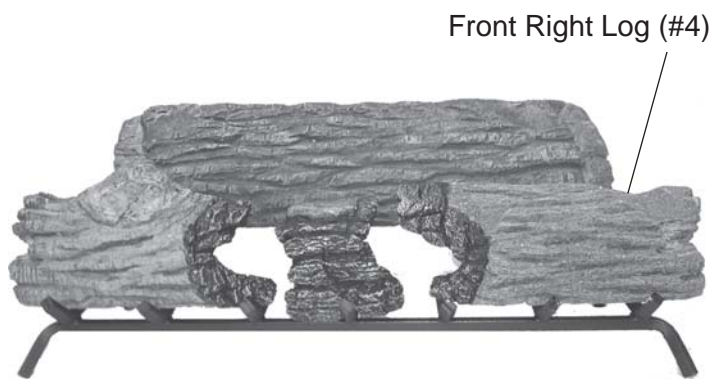

Figure 38 - Placing Right Front Log (#4)
5. Place front right log #4 in front of the plate and to the right. *See Figure 38.*